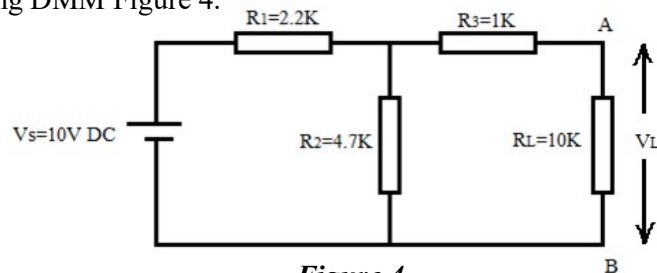

Figure 4
3. Measure the voltage (V_L) across the load resistor (R_L) and the current I_L through the Load using DMM Figure 4.